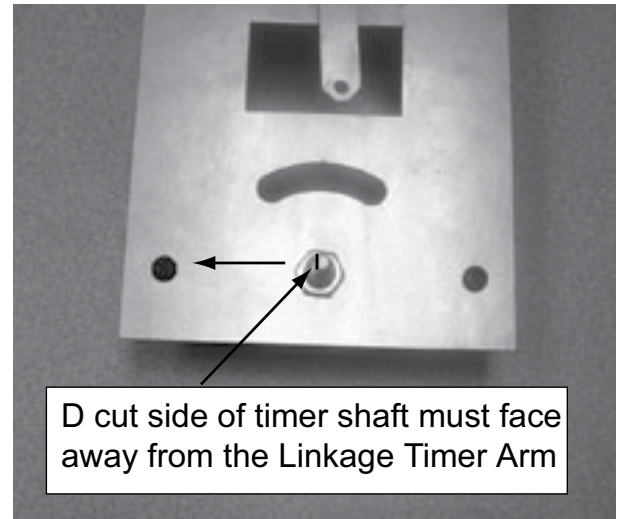

Figure 4.22
- Install new timer using same 2 screws. It is very important that the D cut side of the timer shaft is facing the opposite side of the linkage timer arm. Figure 4.22